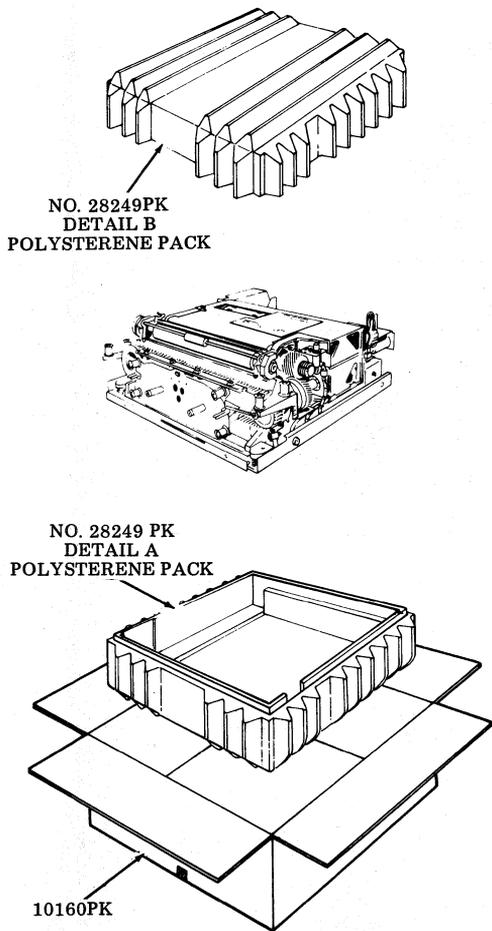

Fig. 2—Printer Carton and Pack
2.01 Open carton and remove polysterene pack. Remove printer from polysterene pack (Fig. 2).